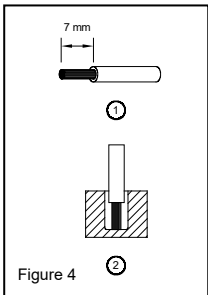

Figure 4
(1)	0.82-8.4	18-8	9.4	8.1
(2)	3.3-5.3	12-10	9.4	8.1
To secure reliable and shock proof connections, the stripping length should be 7 mm (see Fig. 4 (1)). Please ensure that wires are fully inserted into the connecting terminals as shown in Fig. 4 (2).